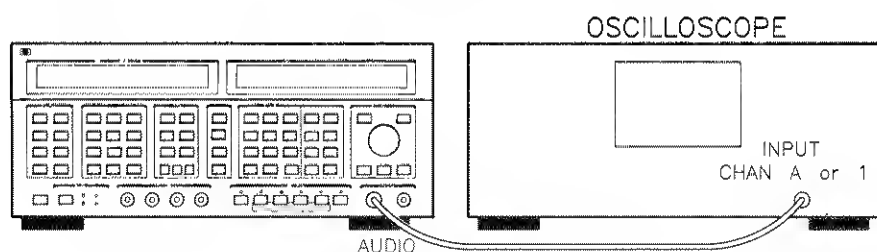

Figure F-1. Equipment Setup for the Quick Demonstration
1. Connect the Signal Generator to the oscilloscope as shown in figure F-1. Turn on the equipment and make the following adjustments: